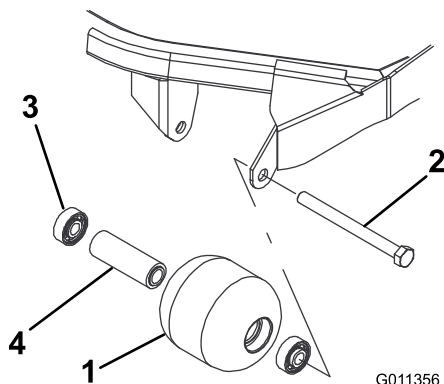

Figure 17
1. Remove the roller mounting bolt (Figure 17).
4. Inspect the roller housing, bearings, and bearing spacer for damage (Figure 17). Replace damaged components and assemble.
1. Press the first bearing into the roller housing (Figure 17). Press on the outer race only or equally on the inner and outer race.
2. Insert the spacer (Figure 17).
3. Press the second bearing into the roller housing (Figure 17) pressing equally on the inner and outer race until the inner race comes in contact with the spacer.